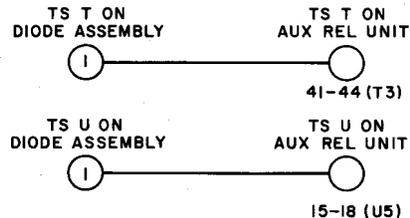

Fig. 18—Connections for Assigning Station Lines to Signal Keys for DSS
- (b) Four plug-in diode assemblies J53035BC, List 2 (MD) mounted in jacks on each auxiliary relay unit (see Note 1, Fig. 18 for location).
sign called stations to signal keys (see Fig. 18).